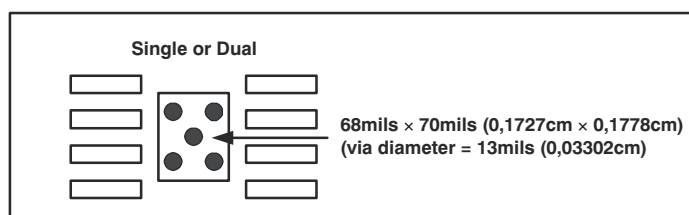

图 8-4. Thermal Pad PCB Etch and Via Pattern
2. Prepare the PCB with a top-side etch pattern as shown in 图 8-4. Use etch for the leads as well as etch for the thermal pad.